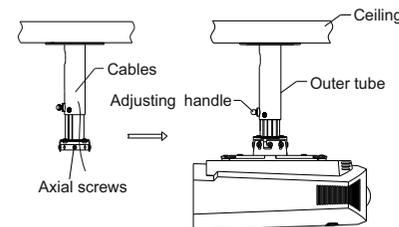

Figure 1-10
Step 4-3: put the corresponding wire rod of the projector through the inner tube, insert the inner tube into the pipe on the fixed ceiling, lift the octopus (installed for speculation) with both hands to hang the axial screw along the guide chute, and lock the left and right four adjusting screws. Refer figure 1-10 (suitable for ceiling hoisting and installation)